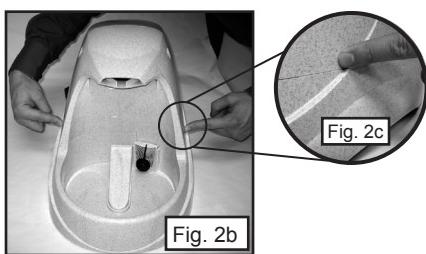

Fig. 2b
- 5) Remove the filter housing by gently pushing in on either side of the fountain where the curve meets the seam. Gently lift up. (Fig. 2b-d)